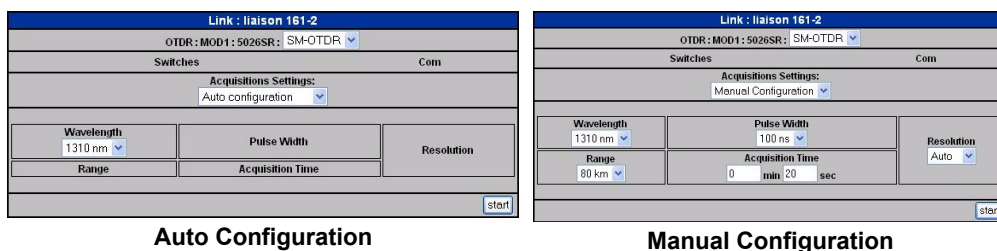

Fig. 88 Measurement parameters
- 4 Configure the **Measurement parameters** (as seen in Figure 88 on page 70):